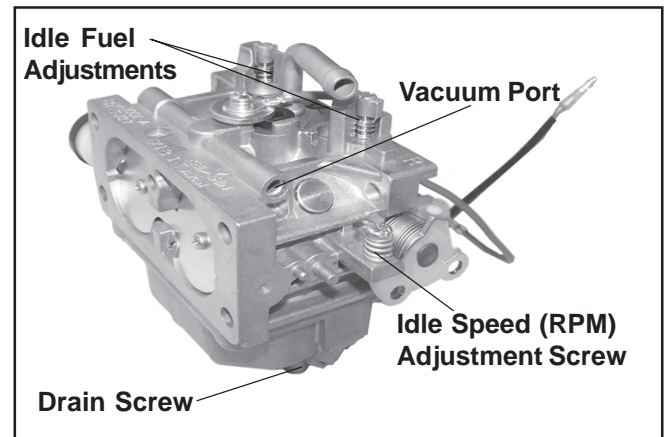

Figure 25. Keihin Two-Barrel Carburetor.
These engines use a Keihin BK two-barrel carburetor with fixed main jets, and fixed or limiter-equipped low idle fuel adjusting needles. See Figure 25. In compliance with government emission standards, the carburetor is calibrated to deliver the correct fuel-to-air mixture to the engine under all operating conditions. Adjustments are made as follows.
1. **Low Idle Speed (RPM) Setting:** Place the throttle control into the **idle** or **slow** position. Hold the governor lever away from carburetor so the throttle lever is against the Idle Speed (RPM) Adjustment Screw of carburetor. See Figure 25. Set the low idle speed to **1200 RPM*** (± 75 RPM) by turning the low idle speed adjusting screw on carburetor **in or out**. Check the speed using a tachometer.